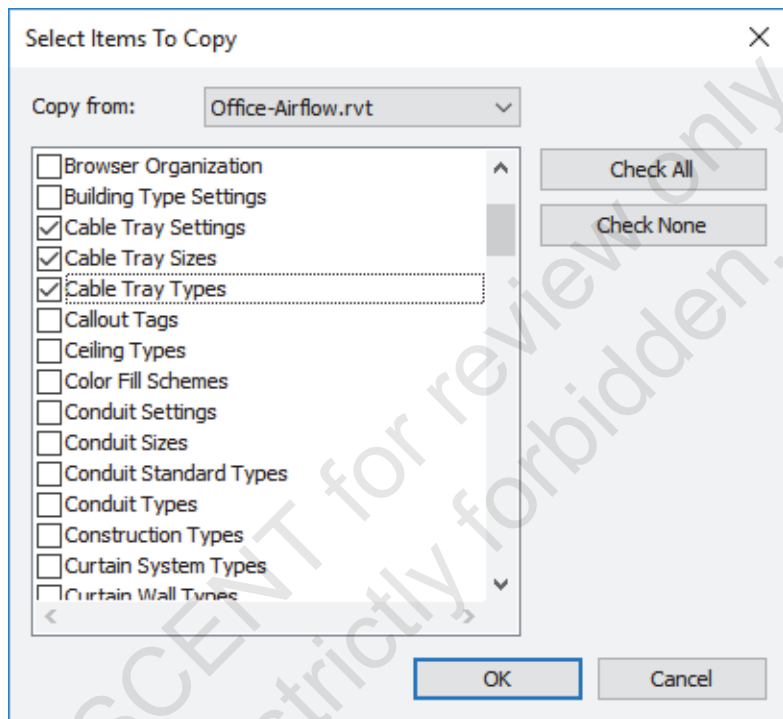

Figure 1–15
5. Select the items you want to copy into the current project, as shown in Figure 1–15. Then, click **OK**.